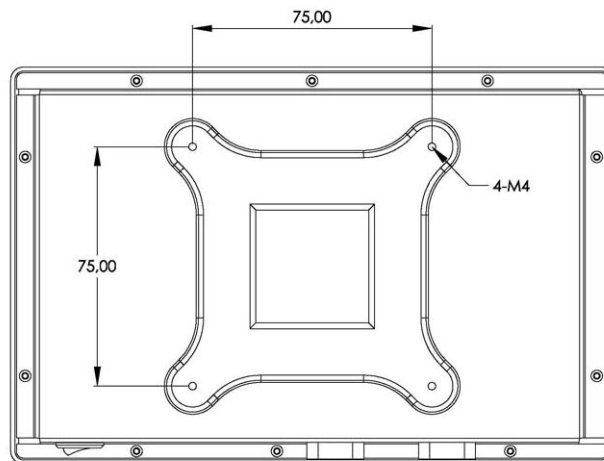

Figure 3-17: Arm Mounting Retention Screw Holes
Step 3: Align the retention screw holes on the mounting arm interface with those in the IOVU-752S, as shown in **Figure 3-17**.